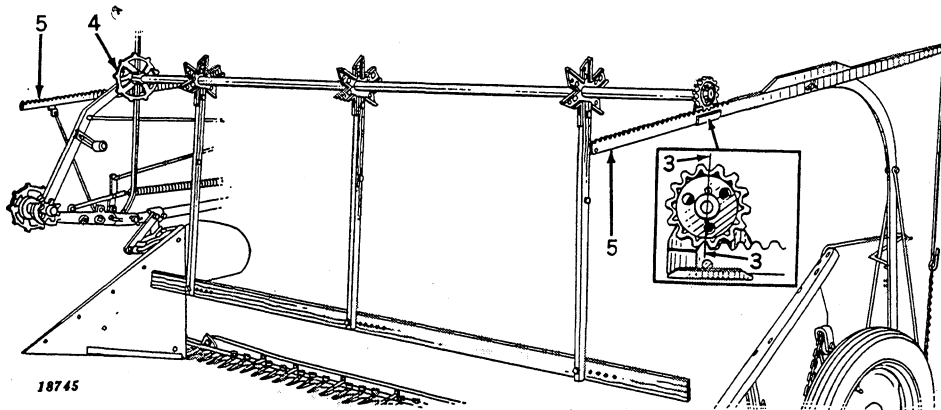

Figure 79
2. Remove stop bolts in reel racks at 5, Figure 79.
3. (Figure 79) Start reel rack gears into first tooth of the racks evenly. They must both be started the same, see Figure 79. Then swing slides down over racks and push reel back.
4. (Figure 79) Bolt pipe bracket to reel support angle, raising reel with right-hand and securing bolt with left-hand.
5. (Figure 79) Replace stop bolts in reel racks.
10. Attach reel arms and slats, Figure 79. Reel slats should be attached so that plain side of slat, as well as head of slat bolts, works against the grain. True up the slats at inner end so they just clear the inside divider. Tighten the bolts, in each slat and the arms, as you line them up.